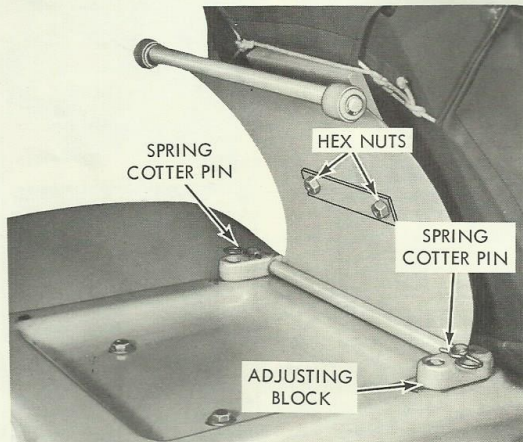

Figure 23
2. Remove spring cotter pins shown in Figure 23.
3. Lift seat; using one of the two holes provided, position adjusting blocks as shown in Figure 23 for the
2. Remove the two hex nuts shown in Figure 23, then add or remove leaf springs as desired.
To remove the seat, remove the two spring cotter pins shown in Figure 23, and lift seat from tractor.